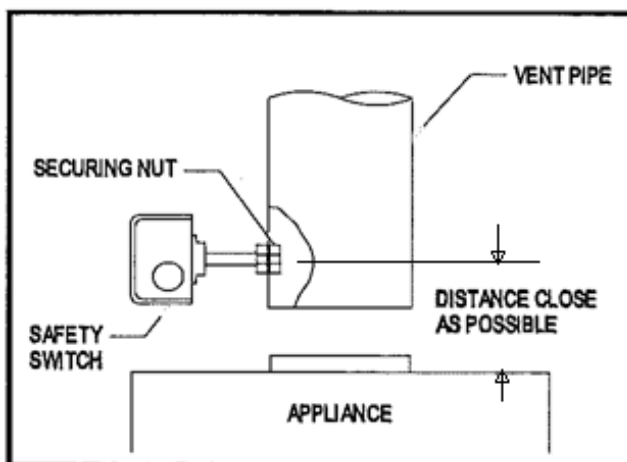

Figure 1 - Illustration from the instruction manual of Field Controls
- 4) Tighten the other securing nut onto the pipe as far as possible (Figure 1).
- 6) Install the securing nut on the safety switch tube, which protrudes into the flue vent pipe. Tighten the nut securely (Figure 1).